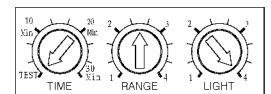

Figure 4
6. Locate the adjustment knobs on the control panel to perform test and adjustments. (Illustrated as Figure 4.)